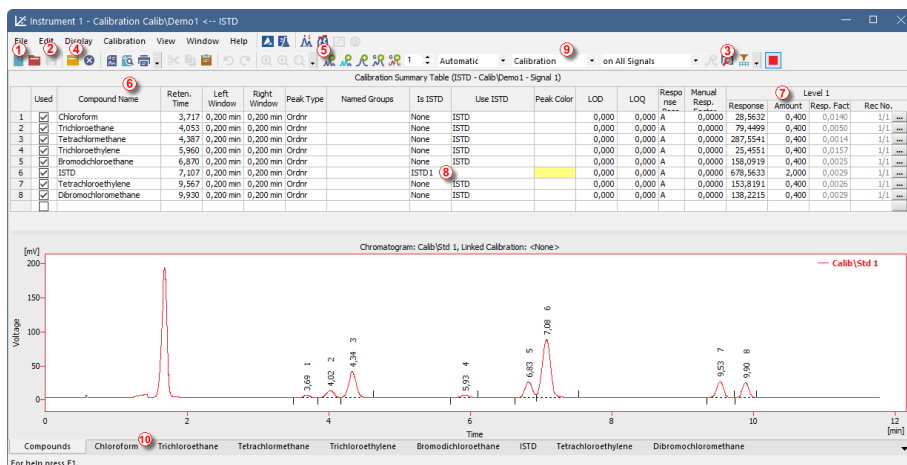

Fig. 13: The Calibration window - loaded standard
- Use the *Open Standard*  icon (yellow) ④ to open the STD 1.PRM data file. The lower part of the *Calibration* window now displays the chromatogram of the standard.
- Use the *Add All*  icon (blue) ⑤ to add all identified peaks to the Calibration Summary Table. The Table appears in the *Calibration* window, ready to be completed as shown on **Fig. 13** on pg. 20.
- As demonstrated in the Calibration Summary Table and the Chromatogram, individual peaks are now identified according to their retention times only. To label the peaks, click and edit the fields in the *Compound Name* column ⑥ to the names shown on **Fig. 13** on pg. 20.